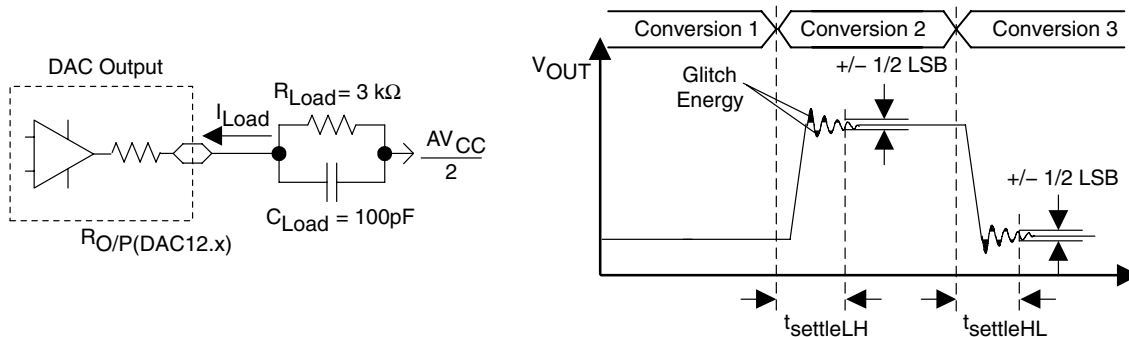
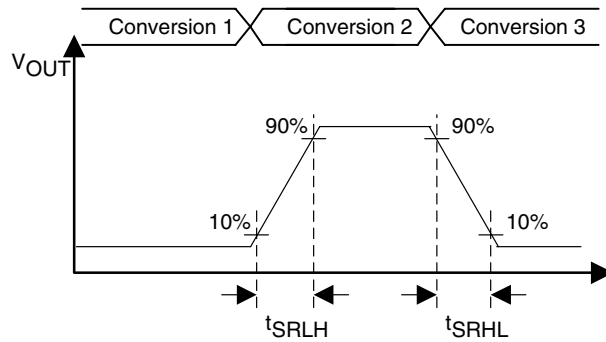

Figure 16. Settling Time and Glitch Energy Testing
Figure 17. Slew Rate Testing
12-bit DAC, dynamic specifications, V_{REF,DAC12} = AV_{CC}, DAC12IR = 1 (see Figure 16 and Figure 17)
- NOTES: 1. R_{Load} and C_{Load} connected to AV_{SS} (not AV_{CC}/2) in Figure 16.